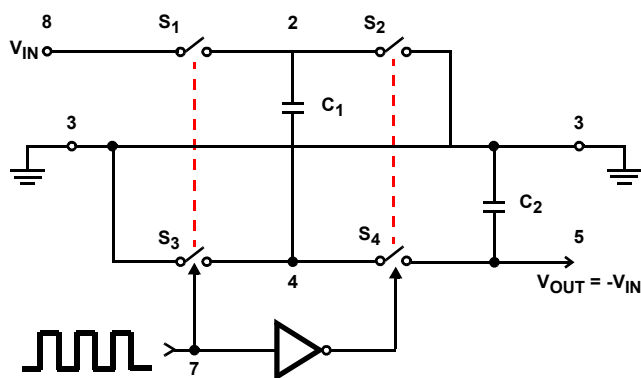
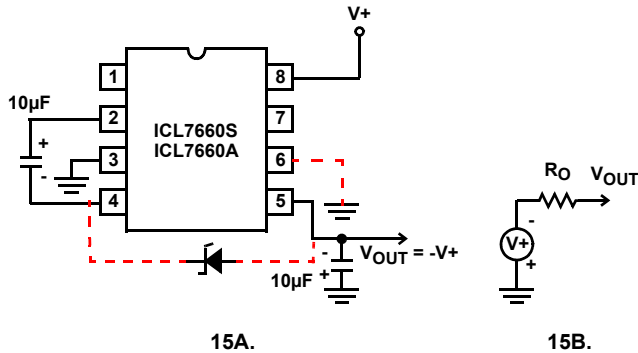

FIGURE 14. IDEALIZED NEGATIVE VOLTAGE CONVERTER
FIGURE 15. SIMPLE NEGATIVE CONVERTER AND ITS OUTPUT EQUIVALENT
The ICL7660S and ICL7660A contain all the necessary circuitry to complete a negative voltage converter, with the exception of two external capacitors, which may be inexpensive 10 $\mu$ F polarized electrolytic types. The mode of operation of the device may best be understood by considering Figure 14, which shows an idealized negative voltage converter. Capacitor  $C_1$  is charged to a voltage,  $V_+$ , for the half cycle, when switches  $S_1$  and  $S_3$  are closed. (Note: Switches  $S_2$  and  $S_4$  are open during this half cycle). During the second half cycle of operation, switches  $S_2$  and  $S_4$  are closed, with  $S_1$  and  $S_3$  open, thereby shifting capacitor  $C_1$  to  $C_2$  such that the voltage on  $C_2$  is exactly  $V_+$ , assuming ideal switches and no load on  $C_2$ . The ICL7660S and ICL7660A approach this ideal situation more closely than existing non-mechanical circuits.
In the ICL7660S and ICL7660A, the four switches of Figure 14 are MOS power switches;  $S_1$  is a P-Channel device; and  $S_2$ ,  $S_3$  and  $S_4$  are N-Channel devices. The main difficulty with this approach is that in integrating the switches, the substrates of  $S_3$  and  $S_4$  must always remain reverse biased with respect to their sources, but not so much as to degrade their "ON" resistances. In addition, at circuit start-up, and under output short circuit conditions ( $V_{OUT} = V_+$ ), the output voltage must be sensed and the substrate bias adjusted accordingly. Failure to accomplish this would result in high power losses and probable device latch-up.
where  $V_1$  and  $V_2$  are the voltages on  $C_1$  during the pump and transfer cycles. If the impedances of  $C_1$  and  $C_2$  are relatively high at the pump frequency (see Figure 14) compared to the value of  $R_L$ , there will be a substantial difference in the voltages,  $V_1$  and  $V_2$ . Therefore it is not only desirable to make  $C_2$  as large as possible to eliminate output voltage ripple, but also to employ a correspondingly large value for  $C_1$  in order to achieve maximum efficiency of operation.
The majority of applications will undoubtedly utilize the ICL7660S and ICL7660A for generation of negative supply voltages. Figure 15 shows typical connections to provide a negative supply where a positive supply of +1.5V to +12V is available. Keep in mind that pin 6 (LV) is tied to the supply negative (GND) for supply voltage below 3.5V.
The output characteristics of the circuit in Figure 15 can be approximated by an ideal voltage source in series with a resistance as shown in Figure 15B. The voltage source has a value of  $-(V_+)$ . The output impedance ( $R_O$ ) is a function of the ON resistance of the internal MOS switches (shown in Figure 14), the switching frequency, the value of  $C_1$  and  $C_2$ , and the ESR (equivalent series resistance) of  $C_1$  and  $C_2$ . A good first order approximation for  $R_O$  is shown in Equation 2:
Figure 19 combines the functions shown in Figure 15 and Figure 18 to provide negative voltage conversion and positive voltage doubling simultaneously. This approach would be suitable, for example, for generating +9V and -5V from an existing +5V supply. In this instance, capacitors  $C_1$  and  $C_3$  perform the pump and reservoir functions, respectively, for negative voltage generation, while capacitors  $C_2$  and  $C_4$  are pump and reservoir, respectively, for the doubled positive voltage. There is a penalty in this configuration which combines both functions, however, in that the source impedances of the generated supplies will be somewhat higher, due to the finite impedance of the common charge pump driver at pin 2 of the device.
The bidirectional characteristics can also be used to split a high supply in half, as shown in Figure 20. The combined load will be evenly shared between the two sides, and a high value resistor to the LV pin ensures start-up. Because the switches share the load in parallel, the output impedance is much lower than in the standard circuits, and higher currents can be drawn from the device. By using this circuit, and then the circuit of Figure 15, +15V can be converted, via +7.5 and -7.5, to a nominal -15V, although with rather high series output resistance ( $\sim 250\Omega$ ).